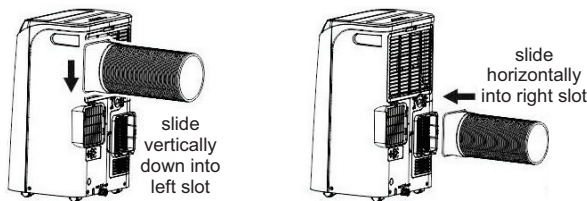

Fig. 4
Step 6: Attach the hoses to the unit by sliding the connectors into the left and right slots as shown in Fig. 4.